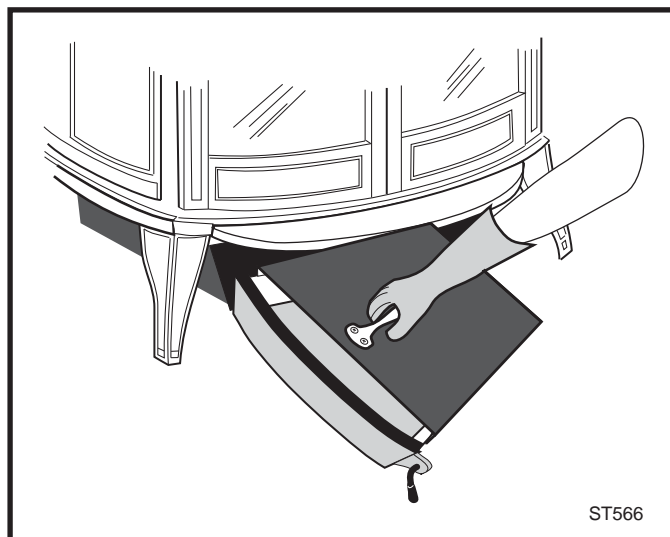

Fig. 29 Be sure the cover is securely attached before removing the ash pan.
- Slide the cover onto the pan, making sure it is securely closed. (Fig. 29)